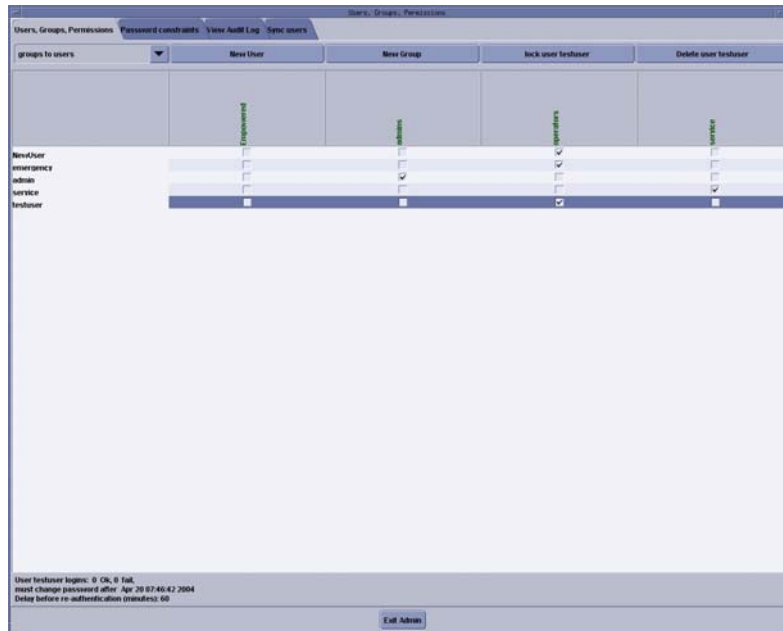

Figure 1-16 Using the User, Groups, Permissions screen
- 8.) If an account for a operator user has been added, select groups to users from the pull-down menu, and assign the operator user to group Operators by selecting the check-box under operators in the row of the new user name, e.g., testuser (see Figure 1-16).